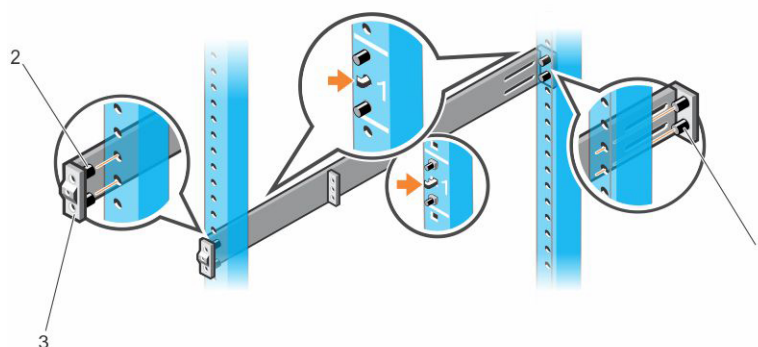

Figure 14. 1U Tool-less Configuration
1. With the ReadyRails flange ears facing outward, place one rail between the left and right vertical posts. Align and seat the back flange rail pegs in the back vertical post flange. To see how the pegs appear in both the square and unthreaded round holes, see Figure 14.